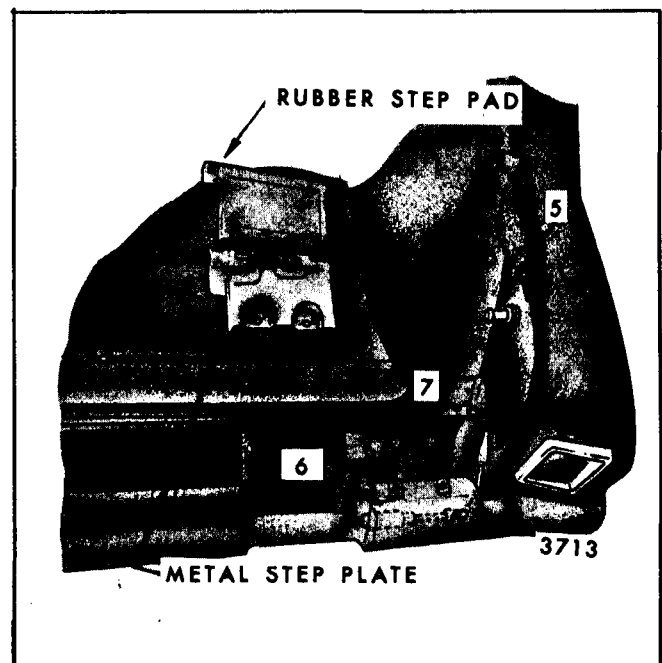

Fig. 9-58-Dual Acting Tail Gate Right Upper and Lower Lock Striker
5. Right Upper Lock Striker Assembly ("5", Figure 9-58) - Adjustable "forward" or "rearward", "up" or "down" and "laterally" by using spacers.
- a. Lower Right Lock Striker - Adjustable "Forward" and "Rearward" ("6", Figure 9-58).
- b. Lower Right Lock Striker Support - Adjustable "Up", "Down" and "Sideways" ("7", Figure 9-58).
To gain access to lower right lock striker or striker support attaching bolts, open tail gate as a door and remove right step pad and step plate (Figure 9-58). To loosen lock striker attaching nut, use a 3/8" ratchet drive with a universal, 3" extension and 9/16" deep socket, as shown in Figure 9-58. To loosen striker support, loosen attaching bolts and move support up and down to make sure it is free.